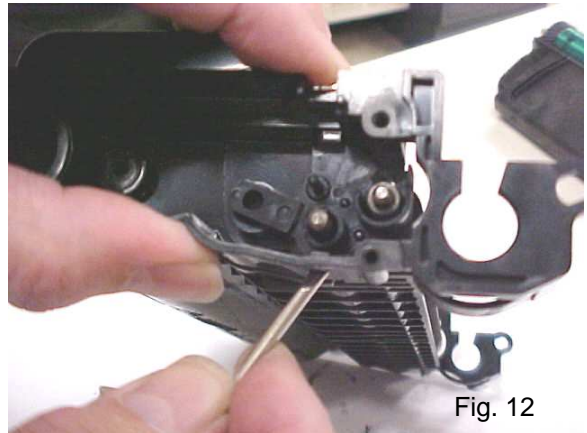

Fig. 12
12. Use a small flathead screwdriver to unsnap the release lock on the developer roller end cap (Fig. 12).